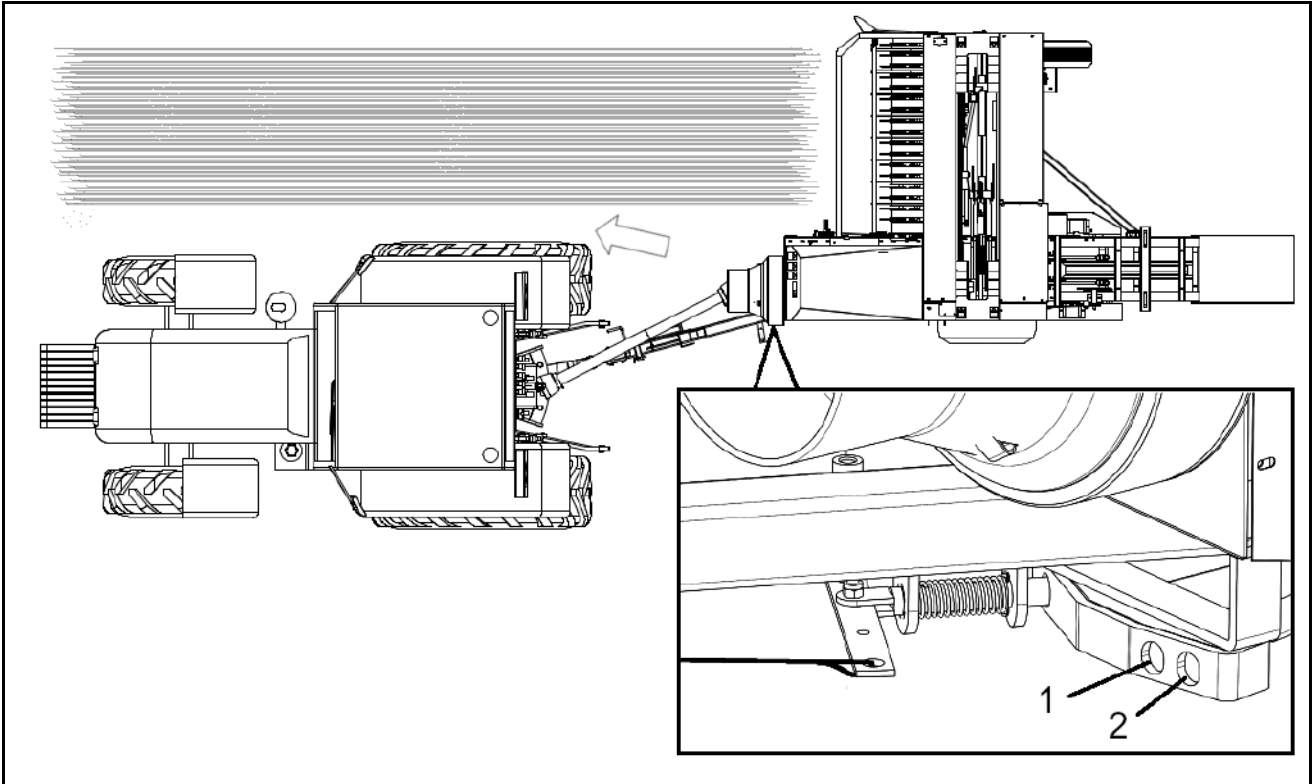

Fig. 7.2
The tongue can have two possible working positions (ref. 1 and ref. 2, Fig. 7.2); in position 2, the machine increases the distance between the tractor and the hay swath, adapting to greater tractor widths.